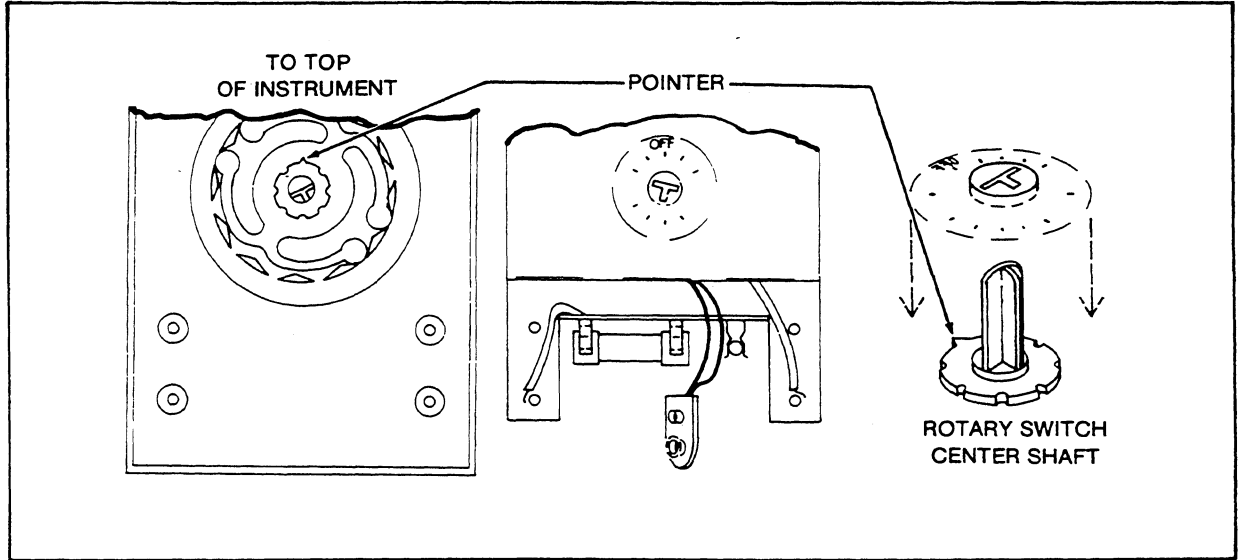

Figure 5-2. Switch Extension Shaft Installation
11. Note the position of the rotary switch center shaft. With the switch in the OFF position, the single small pointer on the base of the rotary switch shaft is pointed toward the top of the instrument. Refer to Figure 5-2.